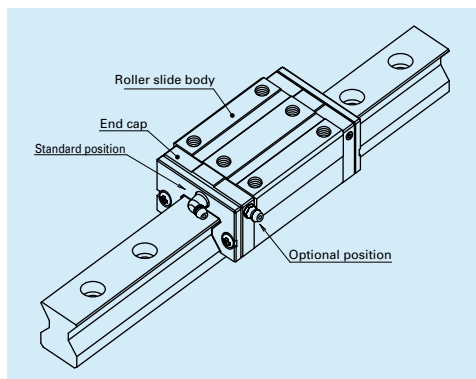

Fig. 12 Mounting position of lubrication accessories
(2) Mounting position of lubrication accessories
- The standard position of grease fittings and tube fittings is the end face of roller slide. We can mount them on a side of end cap for an option. (**Fig. 12**) Please consult NSK for installation of grease or tube fittings to the roller slide body or the side of end cap.